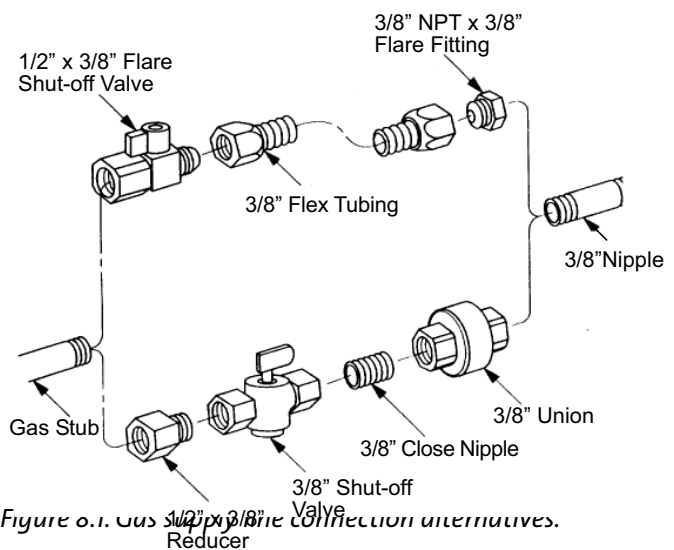

Figure 8.1. Gas supply connection alternatives.
- All codes require a gas shut-off valve (gas cock) and union, to be installed in the supply line, and in the same room as the appliance. This allows for the disconnection of the stove for servicing and maintenance. See fig. 8.1.